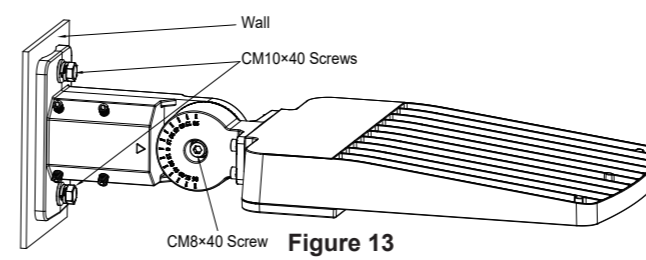
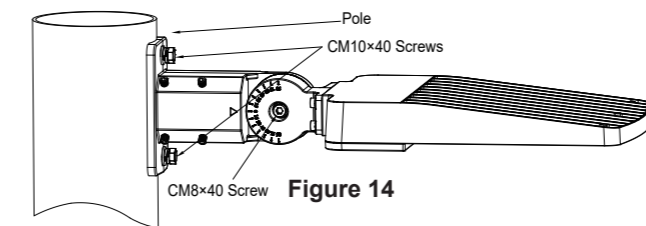

Figure 13
Figure 14
2. The installation steps for this bracket are identical to those of the square bracket and slipfitter bracket referenced above. Completed installation views are shown in Figure 13 and Figure 14.